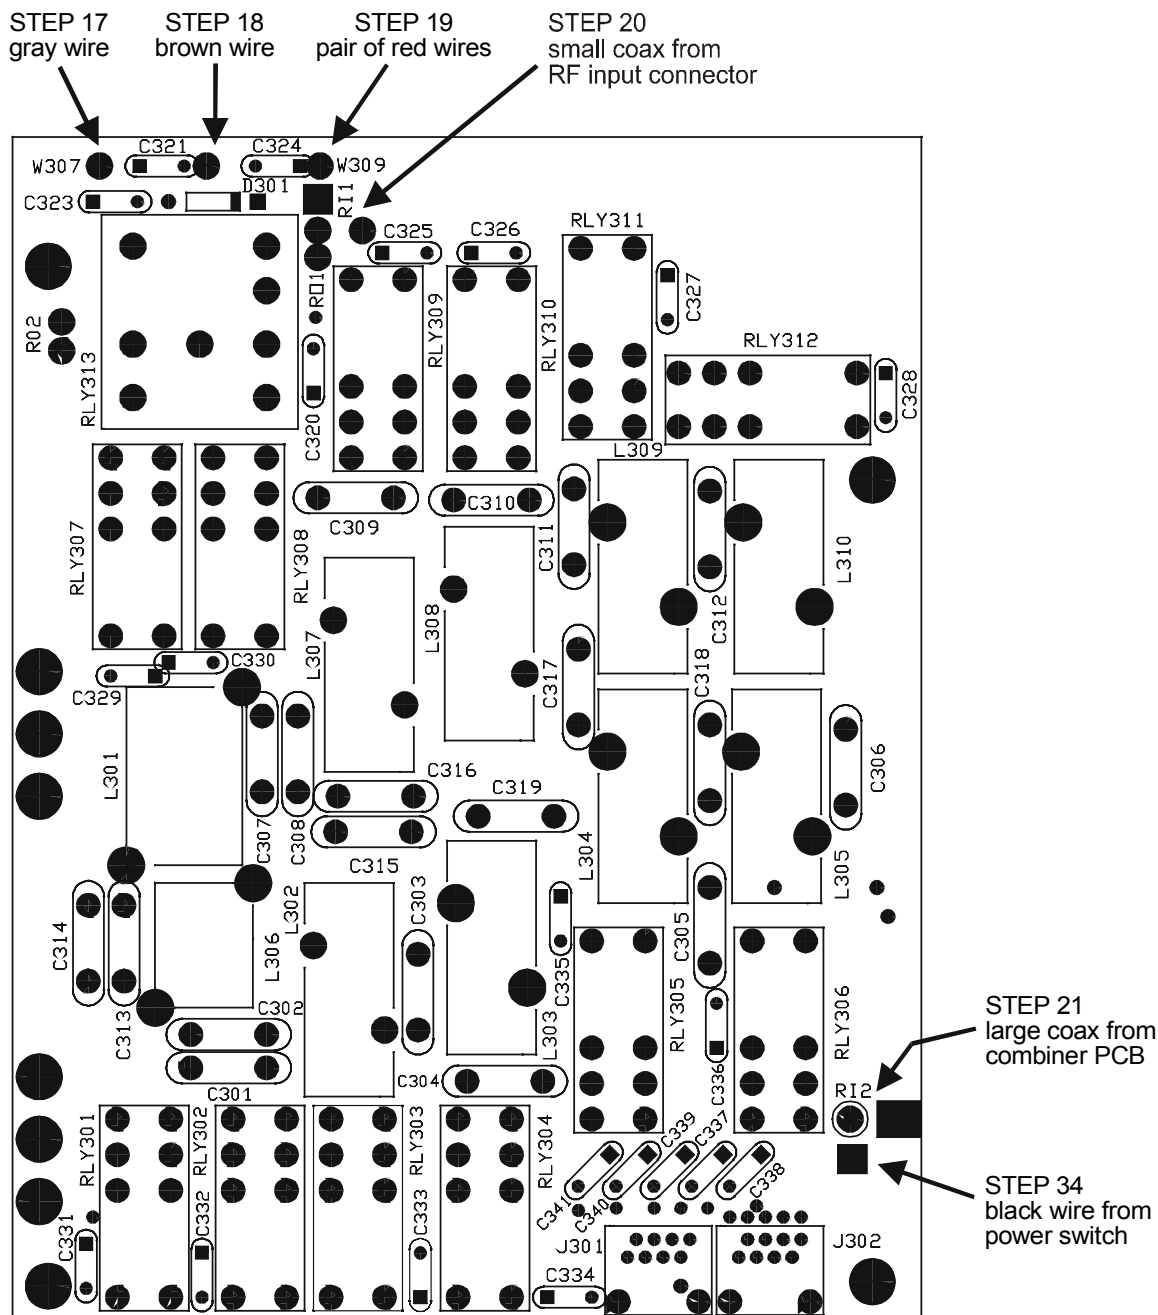

Figure 3
17. Solder the gray wire that was removed in step 4 to W307. See Figure 3.
18. Solder the brown wire that was removed in step 4 to the empty hole between C321 and C324. See Figure 3.
19. Solder the pair of red wires that was removed in step 4 to W309. See Figure 3.
20. Locate the small coax coming from the RF IN Connector on back of the amplifier. Place the center conductor of the small coax into RI1 hole and solder. Solder the shield to the silver pad with a hole, next to RI1. See Figure 3. **Caution: Do not touch relay with soldering Iron.**
21. Locate the larger coax that comes from the combiner board. Cut the coax for the center conductor to fit into the hole label RI2 and solder. Solder the shield to the silver pad next to RI2. See Figure 3. **Caution: Do not touch relay with soldering Iron**
34. Solder the black wire from the power switch to the silver ground pad next to R12. See Figure 3.